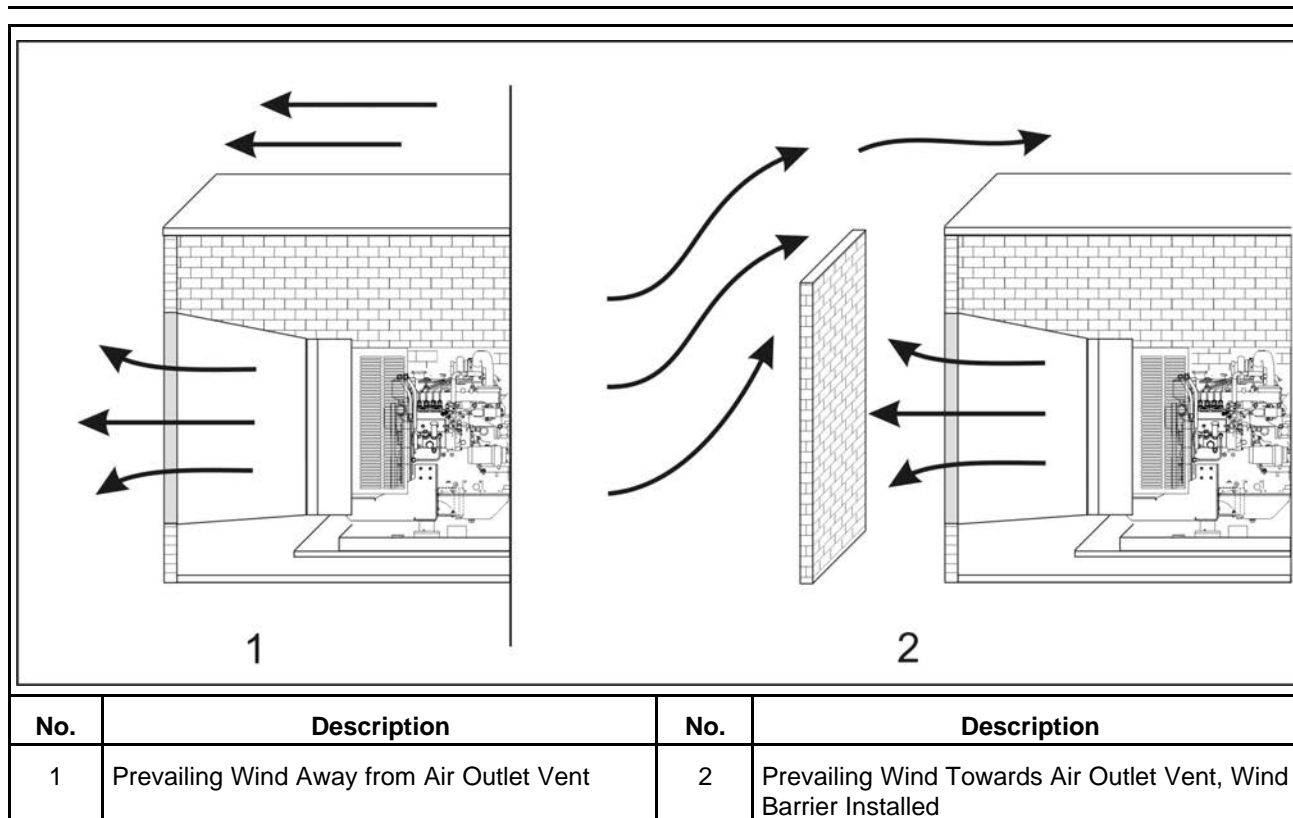

FIGURE 12. WIND BARRIER
3. Wind will restrict free airflow if it blows directly into the air outlet vent. Locate the outlet vent so the effects of wind are eliminated, or if the outlet vent cannot be located as mentioned, install a wind barrier. See Figure 12.